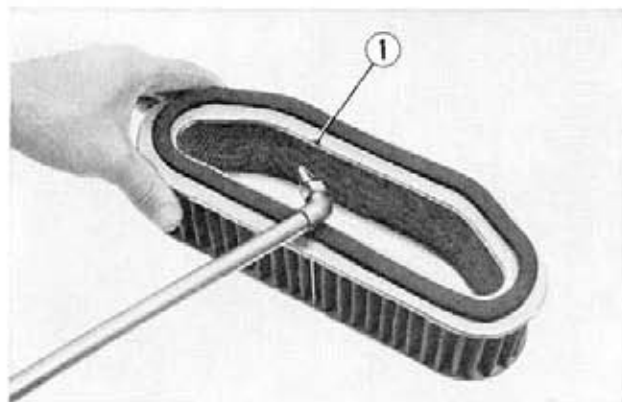

Fig. 19-9 ① Air cleaner element
- (1) Remove left side cover and remove the air cleaner lower case by loosening the wing nuts.
- (2) Remove the air cleaner element and clean it by tapping lightly to loosen dust then using a soft brush, the remaining dust can be brushed from the outer element surface or apply compressed air from the inside of the element. (Fig. 19-9)
- (3) Install the air cleaner lower case.